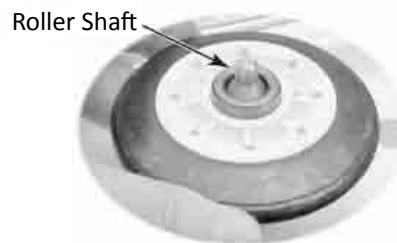

Figure 9
- Slide the roller off the roller shaft (see Figure 9).